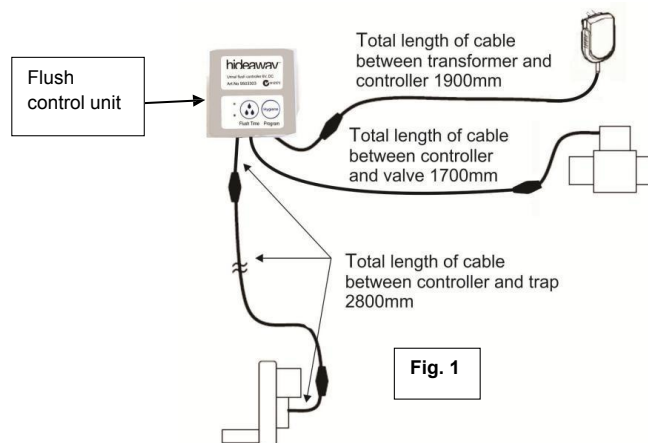

Fig. 1
- Solenoid valve is fitted with 200mm cable and 2 pin connector (Fig. 1)